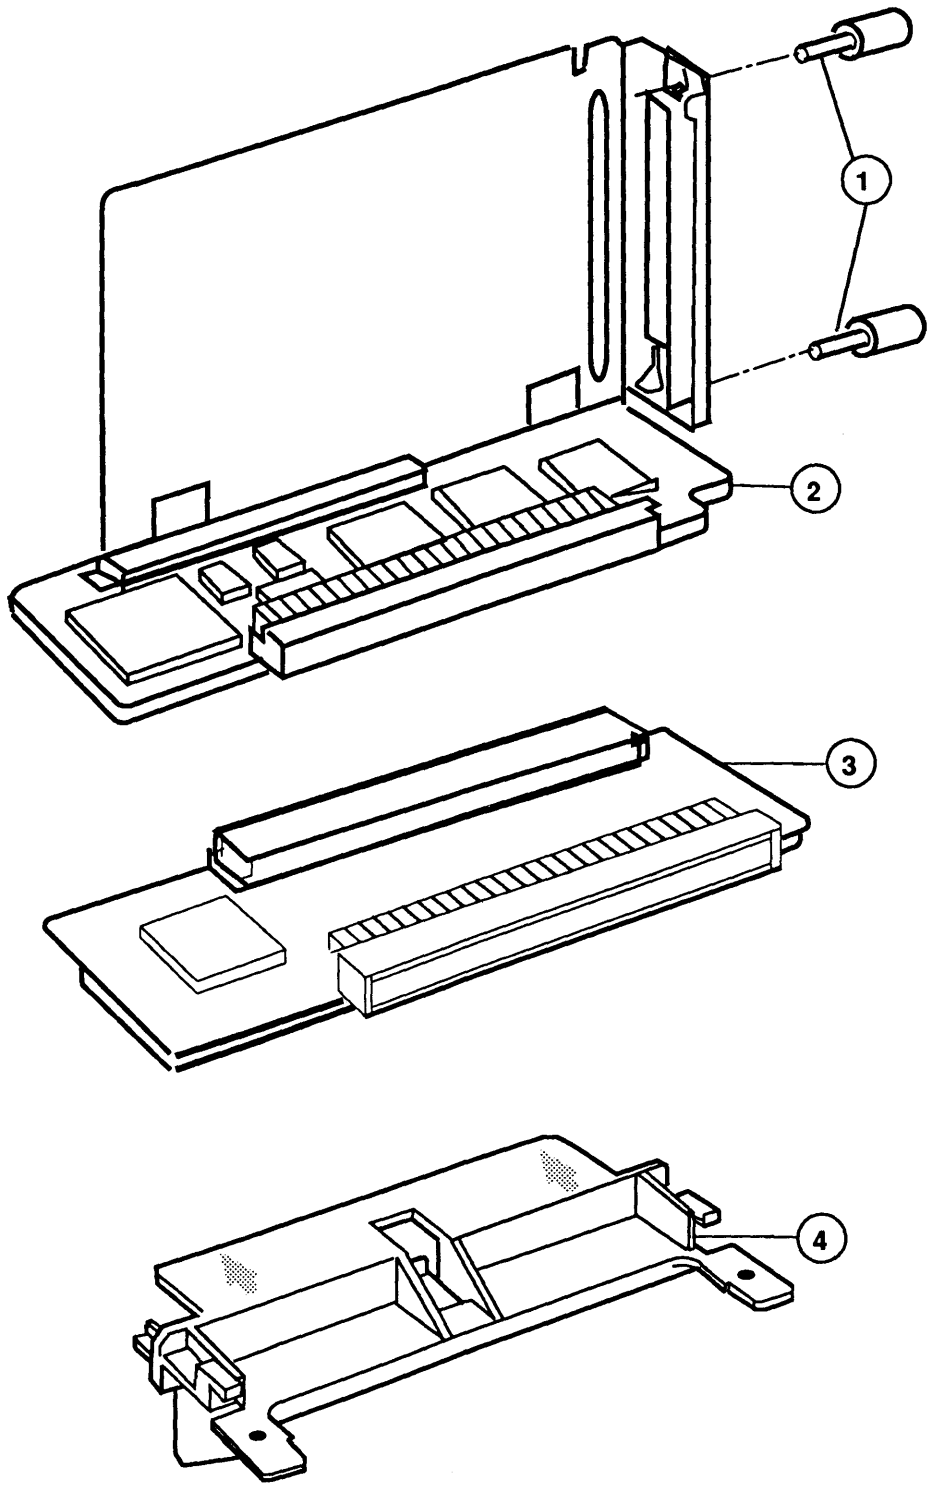

FIGURE 2
- IPL.5 Adapter Cards (Figure 2)
ADAPTER CARDS (Figure 2)